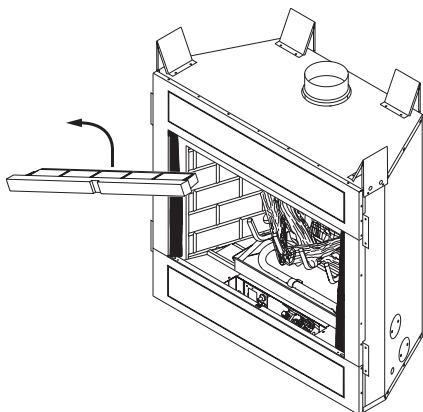

Figure 12 - Removing Front Refractory Access Panel (P325E/VP325E Model Shown)
After completing and checking electrical, gas and vent connections, follow lighting instructions and allow main burner to run for approximately 5 minutes. Hold a lighted match or cigarette near top edge of fireplace opening and play it along entire length of the opening (see Figure 12). Proper venting should tend to draw the flame or smoke into the appliance. Improper venting or escaping of spillage of burned gas, is indicated when the match flickers or goes out. Smoke from a cigarette will also tend to disperse away from the appliance.
1. Remove front refractory access panel by lifting up and angling out of firebox opening (see Figure 12).